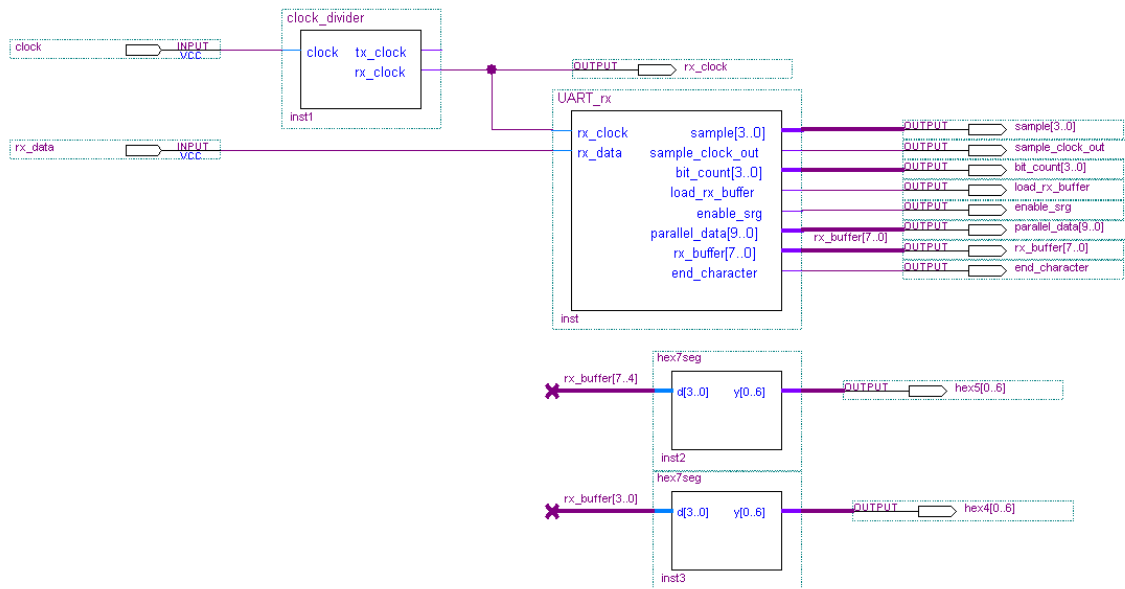

Figure 3 UART Rx Test Circuit
1. Create a test circuit for your UART receiver, as shown in Figure 3. The clock divider should consist of an LPM counter with a modulus chosen to divide the 50 MHz clock from the Altera DE1/DE2 board to produce an output that is 16×9600 Hz. (Refer to Lab 8 for the structure of the clock divider.) Assign pins to the circuit as shown on the table on the second last page of this lab.